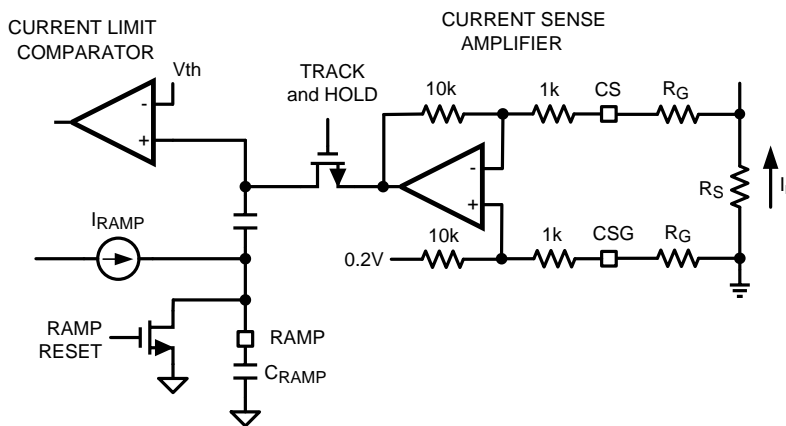

Figure 17. Current Limit and Ramp Circuit
The pedestal current sample is obtained from the current sense resistor (R_S) connected to the CS and CSG pins. It is sometimes helpful to adjust the internal current sense amplifier gain (A) to a lower value in order to obtain the higher current limit threshold. Adding a pair of external resistors R_G in a series with CS and CSG as in Figure 17 reduces the current sense amplifier gain A according to Equation 5: